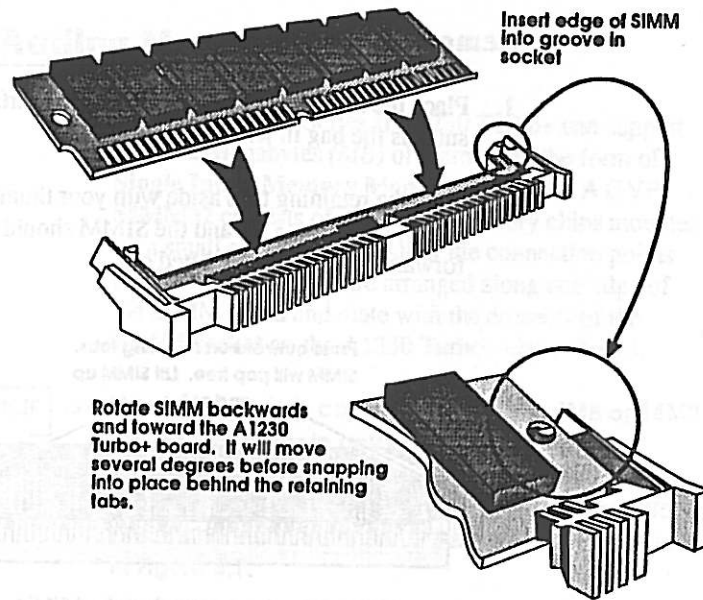

Figure 3.4 - Installing a SIMM.
1. Orient the SIMM as shown in Figure 3.4.